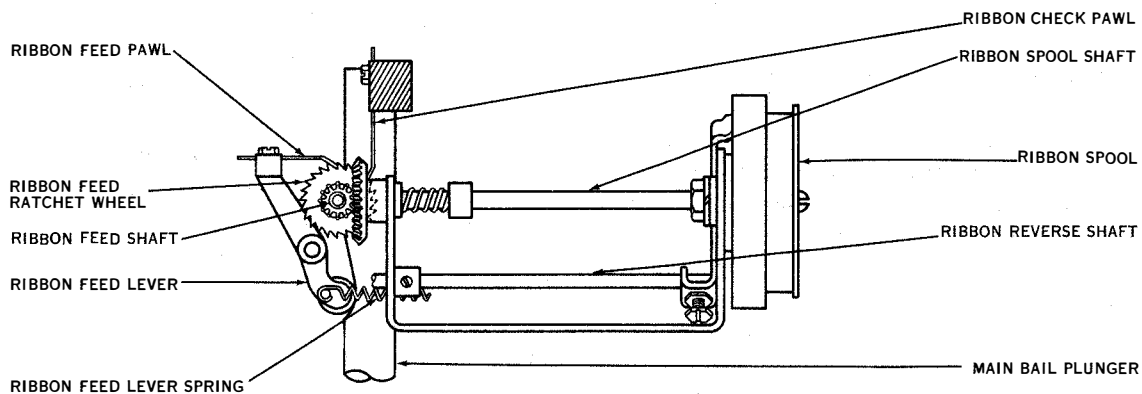

Figure 2-39. Ribbon Mechanism
(11) RIBBON MECHANISM.—Each ribbon spool is mounted on one end of a shaft, with a bevel gear attached to the opposite end (see figure 2-39). A ribbon feed shaft, with a bevel gear at each end and a ratchet wheel in the center, is mounted horizontally across the rear of the unit. The feed shaft can be shifted laterally so the right bevel gear will mesh with the right ribbon spool shaft bevel gear or so the left bevel gear will mesh with the left ribbon spool shaft bevel gear. A ribbon feed lever, mounted behind the tape feed shaft, contains a roller which rides on the main bail plunger. Attached to the upper end of the lever is a ribbon feed pawl which engages the teeth on the ribbon feed ratchet wheel. As the main bail moves upward, the ribbon feed lever roller drops into the indent on the main bail plunger, causing the feed pawl to move to the rear and engage a tooth on the ribbon feed ratchet wheel. As the main bail moves downward, the ribbon feed lever roller rides out of the indent in the main bail plunger, causing the ribbon feed pawl to move forward and rotate the ribbon feed ratchet wheel. This